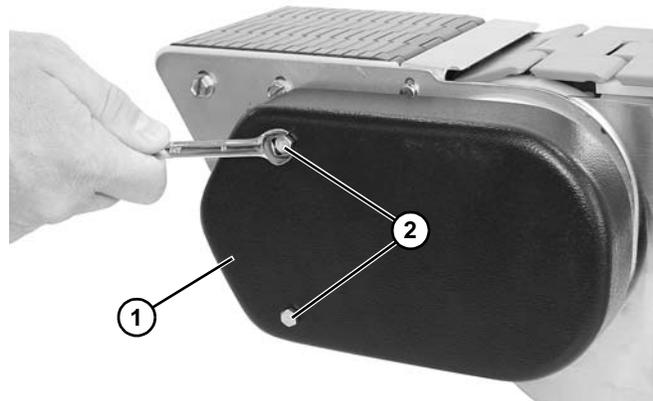

Figure 80
- Install cover (**Figure 80, item 1**) with two hex head screws (**Figure 80, item 2**).